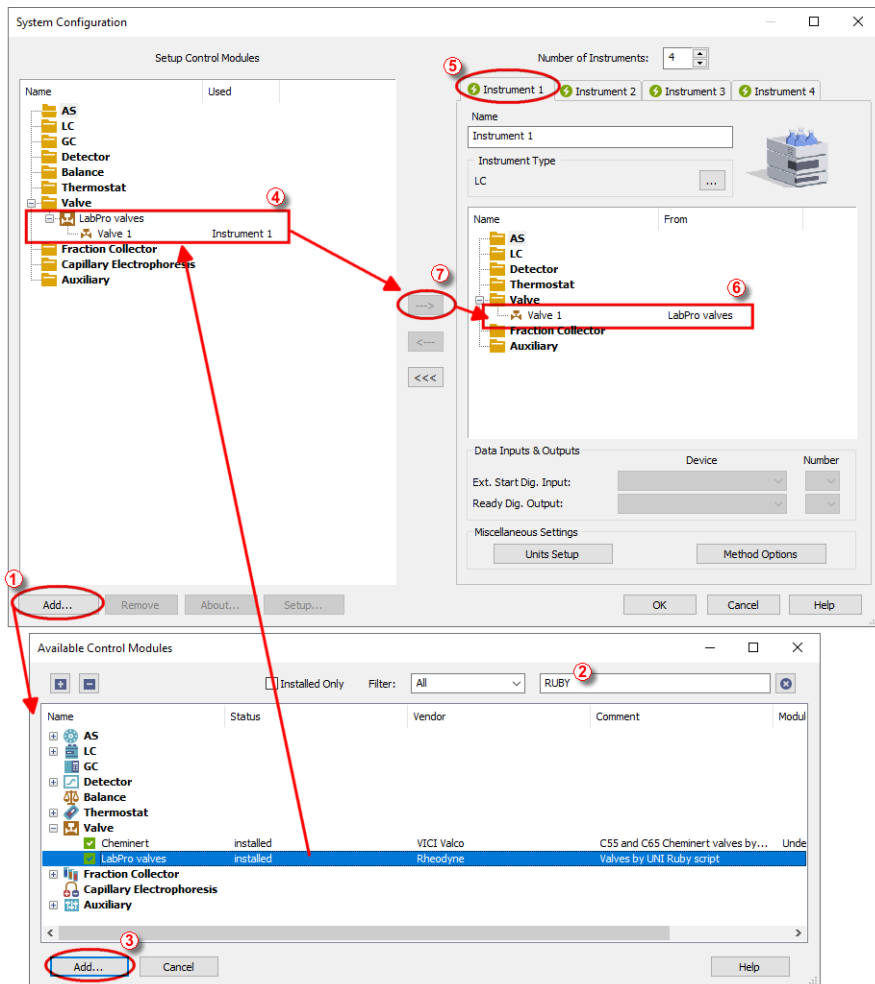

Fig 3: How to add Rheodyne Lab Pro
- Press the **Add** button (1) on **Fig 3** on pg 4.) to invoke the **Available Control Modules** dialog.
- You can specify the search filter (2) to simplify the finding of the driver.
- Select the correct item and press the *Add* (③ on **Fig 3** on pg 4.) button. Each device with already created UNI profile should have its own item named accordingly in the **Available Control Modules** dialog.